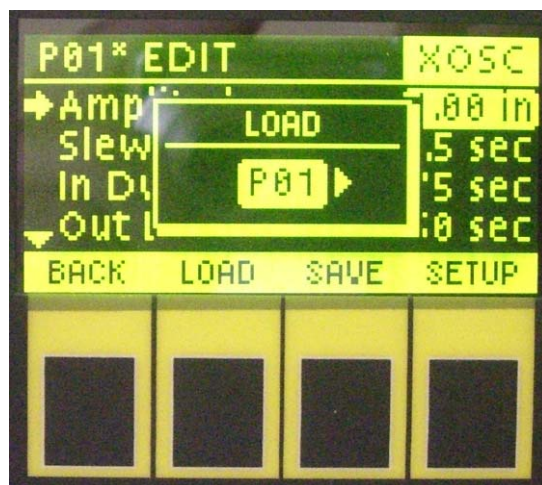

Figure 5-2 – XMS-OSC Hand Pendant *Load* Screen
From the *Start-up* screen, the four (4) Soft Buttons below the Split Screen Display read EDIT, DISABLE, LO SPD, and STATUS. Press the EDIT Button, then, press the LOAD Button. Use the LEFT/RIGHT Soft buttons to select the desired program (P01 to P10). Press the LOAD Button again to load the program. (See Figure 5-2, *XMS-OSC Hand Pendant Load Screen*.)